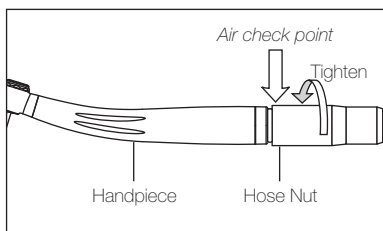
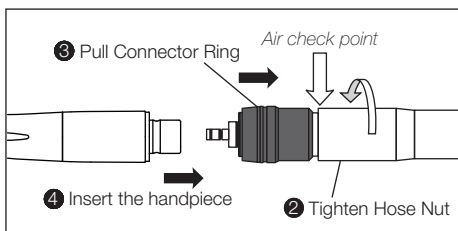

Fig. 1
Fig. 2
- Tighten the Hose Nut. (Fig.1)
- Slide back the Connector Ring as shown in Fig. 2.
Set the Air pressure at the arrowed point on Fig. 1 and Fig. 2. The setting values are on the specification table. Do not exceed the recommended air pressure.